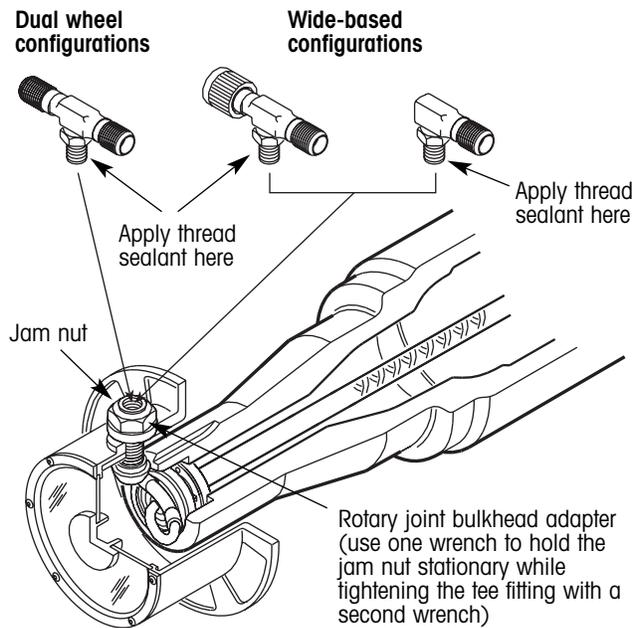

Figure 4. Tee installation
- For all tire configurations, screw the tee fitting onto the rotary joint bulkhead adapter (figure 4) and tighten the swivel threads to 130 ± 10 in. lbs. (14.7 ± 1 N•m) of torque. Use two wrenches to achieve the final torque value. Use one wrench to hold the jam nut on the rotary joint bulkhead adapter stationary and use the second wrench to tighten the tee fitting swivel threads to the final torque value.